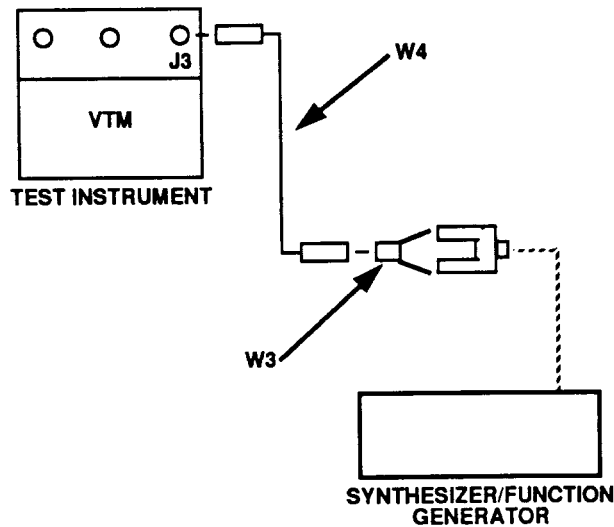

Figure 7. RPM - equipment setup.
(1) Connect equipment as shown in figure 7.